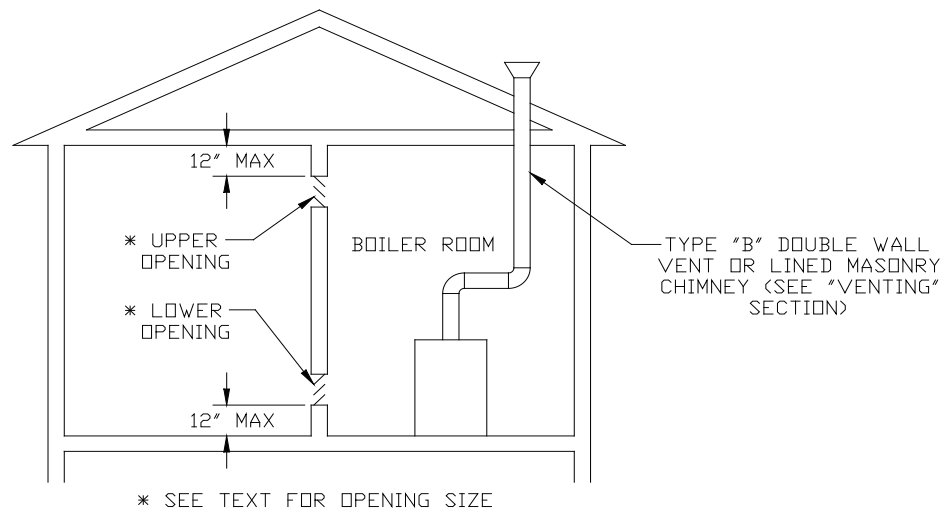

FIGURE 3: BOILER INSTALLED IN CONFINED SPACE,
- 3) Confined Space - Provide two openings into the boiler room, one near the floor and one near the ceiling. The top edge of the upper opening must be within 12” of the ceiling and the bottom edge of the lower opening must be within 12” of the floor (Figure 3).